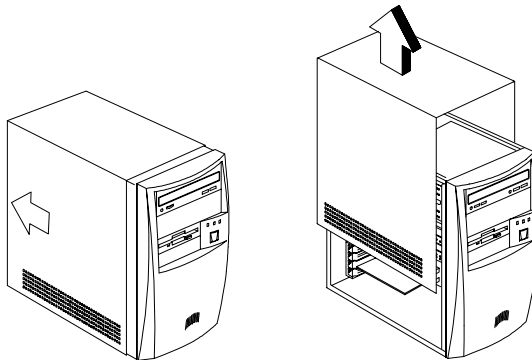

Figure 4-2 Removing the Housing Cover
4. Push the housing cover slightly backward as indicated in Figure 4-2.